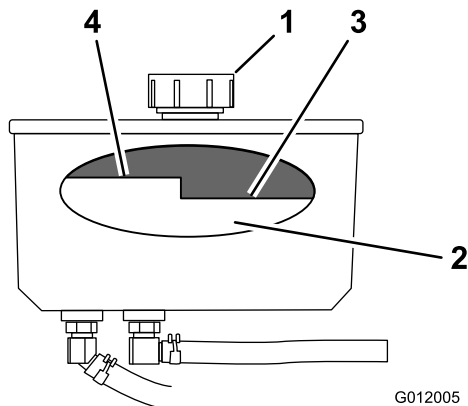

Figure 81
4. Clean the area around the cap and the filler neck of the hydraulic tank (Figure 81).
5. Remove the cap from the filler neck (Figure 81).
Note: The fluid level should be below the hot level of the baffle when the fluid is warm (Figure 81).